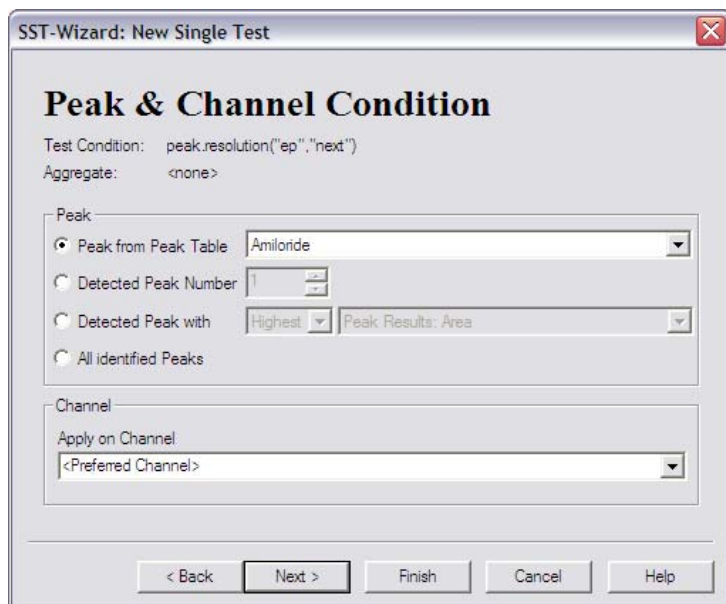

FIGURE 3-20: SST properties **Peak & Channel Condition** where the compound and channel are specified.
4. In **Peak & Channel Condition** the compound can be selected to which the conditions should apply as defined in the previous steps, including the channel like UV_VIS_1 or UV_VIS_2. (FIGURE 3-20).